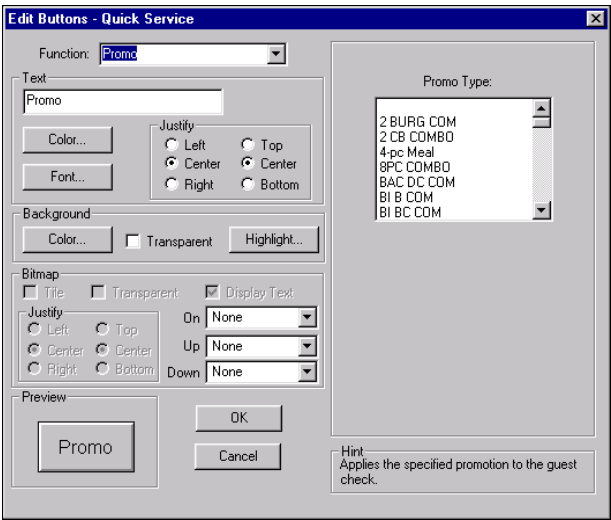

Figure 5-94 Promo Button Function
- 1. Select **Promo** from the **Function** drop-down list. An additional option displays, as shown in Figure 5-94: